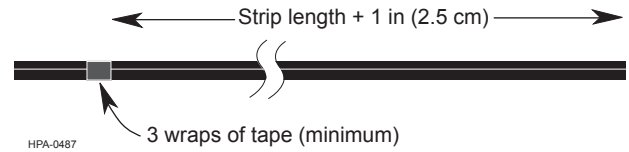

Figure 1
**Step 3:** Mark the cable at the appropriate distance, plus 1 in (2.5 cm), from the cable end with at least three wraps of tape (Figure 1). *These wraps will permanently remain on the cable.*